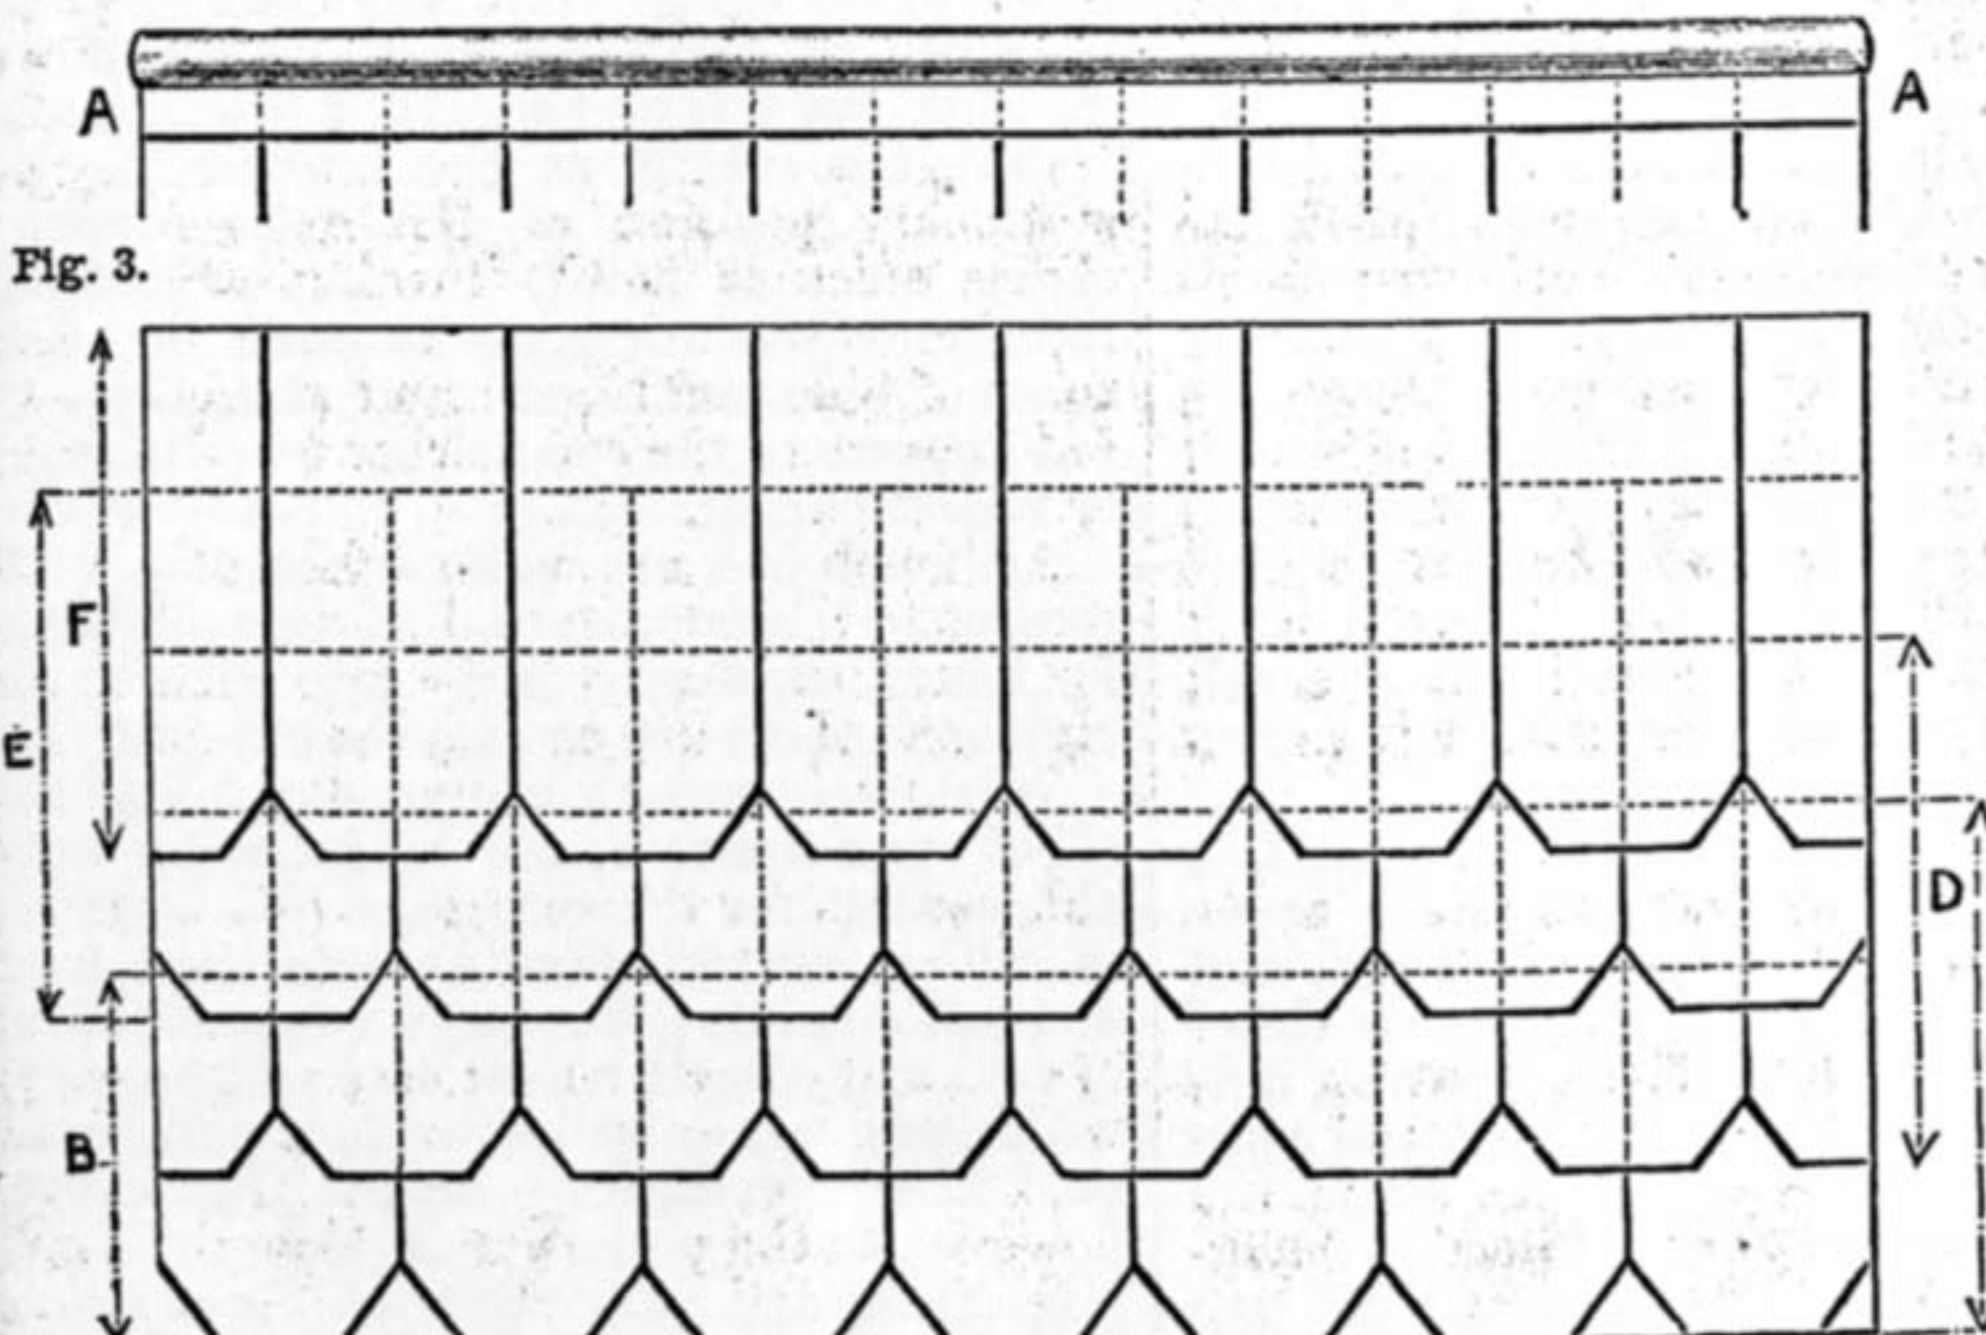
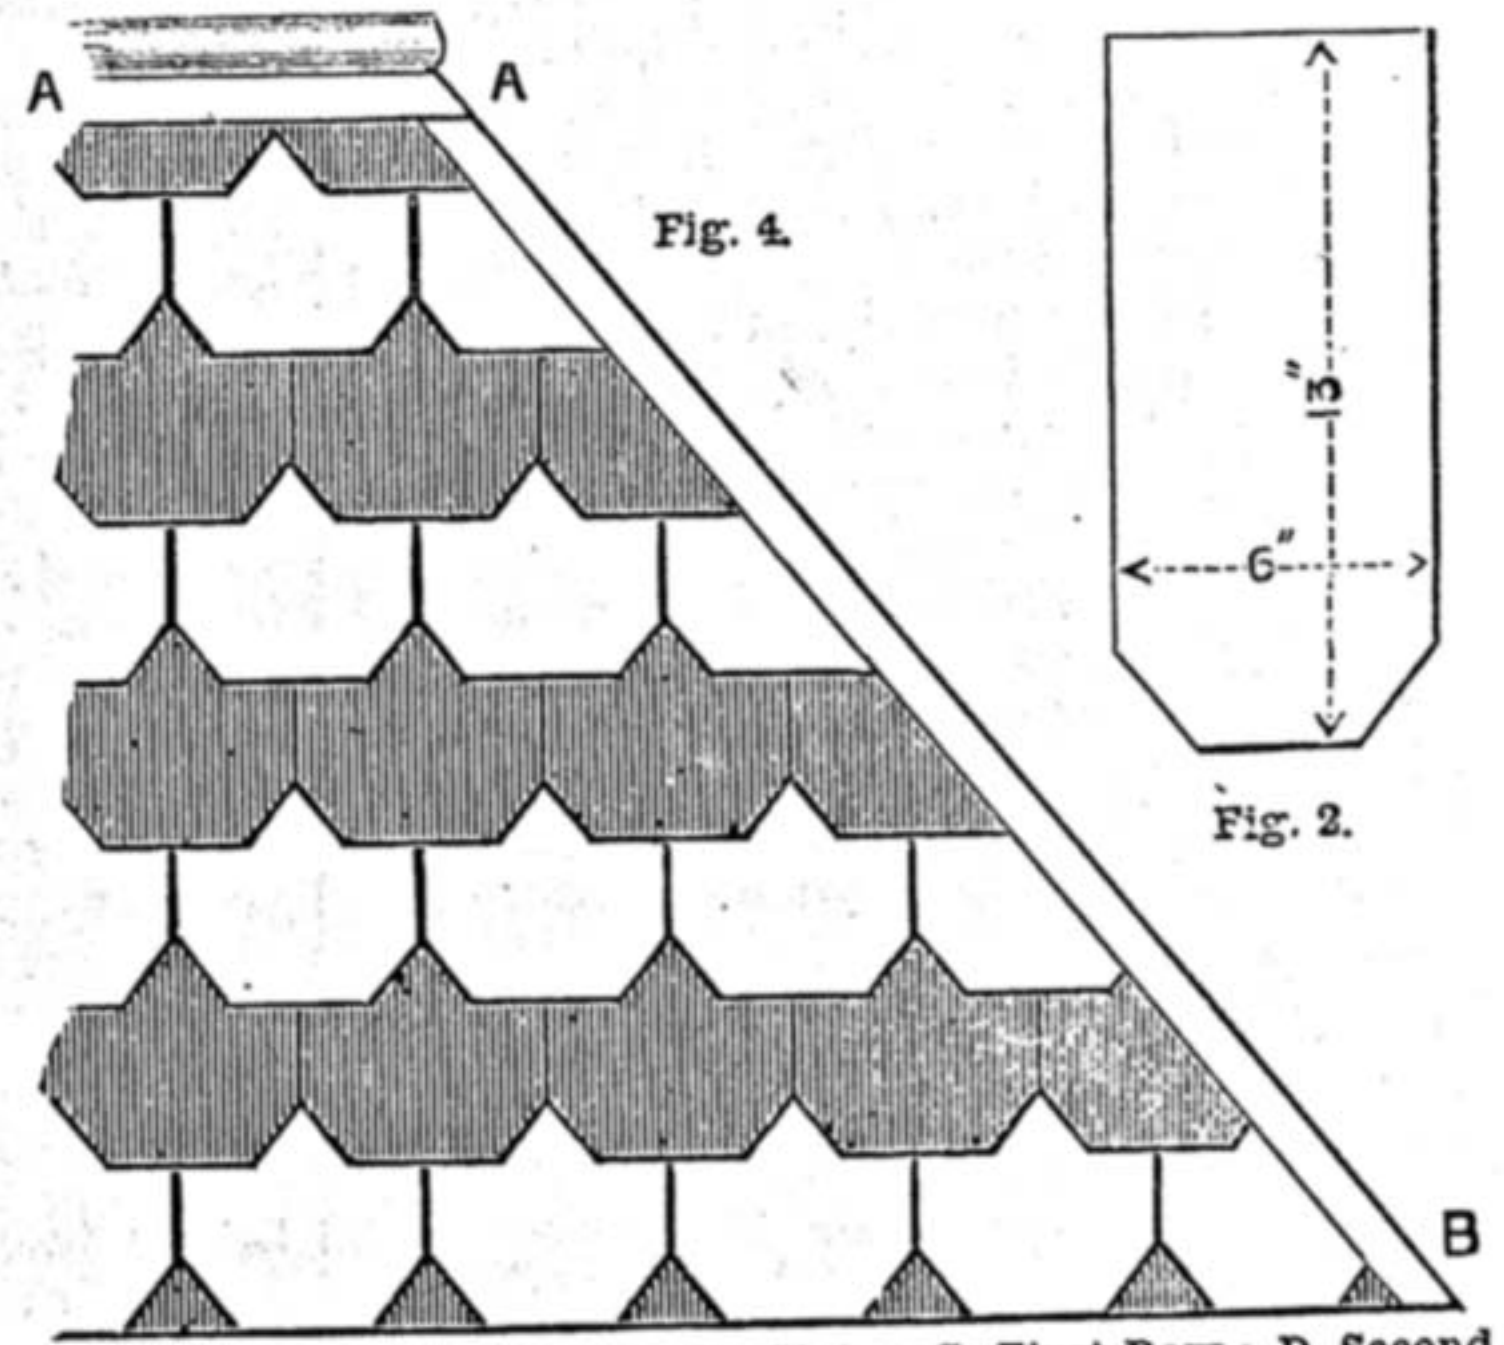
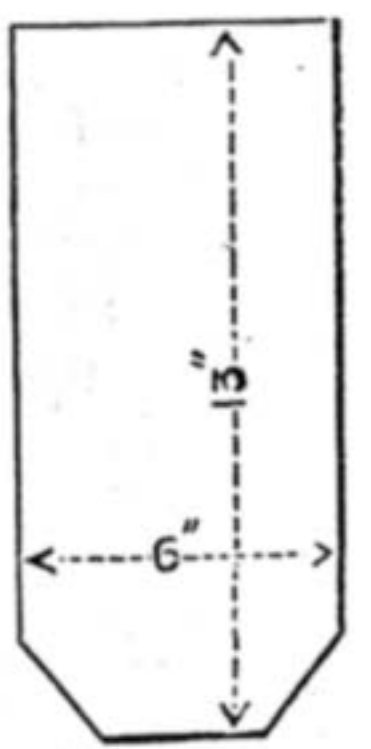

Fig. 3.
Fig. 4.
Fig. 2.
Screws have been progressively improved since that time, the chief improvement being in the tougher iron used; the next, in the acute chisel edge of the thread; and the next, in the screw tapering to a sharp point, with the thread right up to the tip. The latest improvement is making the stem of the screw smaller than the diameter of the thread part, so that the old evil of having to make a big hole in one piece, to prevent it being "stem-bound" and not drawing, is averted, though a smaller hole is used. The illustration of the screw in Fig. 2 shows this. Finally, the head breaking half off is made almost impossible, as the cut does not extend to the edge of the head, but is as a mortise in it, as the diagram shows, the sharpness of the cutting thread being augmented in keenness at each improvement. It all looks simple enough, and the old remark, "any one could have thought of that," drops short when we refer to the metal of which these are made; it is a mild steel of intense toughness, and they are made by elaborate machinery, so that the "bogy" cost, shall not arise to balk its introduction, and it is swaged and rolled cold. This is one demonstration of the superiority of the metal used; again, the cutting is done laterally, not longitudinally, which makes a feeble thread, so that there is right talent evinced in this improvement shown at the Exposition Universelle by the American Screw Company, of Providence, Rhode Island, U.S.A.
Having cut a sufficient number of pieces all exactly one size, they may be made more ornamental by cutting off two corners at one end, at an angle of 45 deg. or 50 deg. (Fig. 2). My readers have, no doubt, observed that many floor-cloths are of a deep Indian red at the back, others of a terra-cotta hue, others dark, and others lighter stone colour; this should not be lost sight of, for herein lies its capability for ornamentation, for it is the back of the cloth we use uppermost.
slates with their lower edges flush with that of the strip you have just nailed on, tacking them down only at their lower edges; then lay 4 in. higher up your second band of slates, nailing them only at the lower edges: for these tacks will go through the row underneath as well and thus securely fasten them. Care should be taken that the joints of the second row should come opposite the exact centre of the first row. If care has been taken to make them all one size, you need only measure the first of each row, the rest will fall exactly in their proper places. Proceed next with the third row, the side joints being made to fall in line with the first row and 4 in. higher up, and so on with the next row or band (see illustration, Fig. 2), when you will find that throughout, as in actual slating, you have three thicknesses of covering, the lower edge of the fourth band overlapping the upper edge of the first just 1 in., thus ensuring its being absolutely water-tight. If you continue until the ridge is reached, you will thus have to cut the last band of slates but one 4 in. shorter, and those of the last—i.e., the top row—8 in. shorter, so that these all finish at
Fig. 2.—Plan and Dimensions of Single Tile. Fig. 3.—Lean-to, or Side of Span Roof—A A, Ridge Roll of Zinc; B, 9 in. Strip; C, First Row; D, Second Row; E, Third Row; F, Fourth Row. Fig. 4.—Hipped Roof—A A, Ridge Roll of Zinc; A B, Zinc Flashing.
In "hipped" roofs (2) the oil-cloth tiles have to be cut to the angle at the "hip" rafter, and before the ridge flashing is put on the hip should be made good with a strip of cloth or zinc nailed down over the cut edges of the slates, and the ridge flashing then nailed over its upper end. (See Fig. 3.)